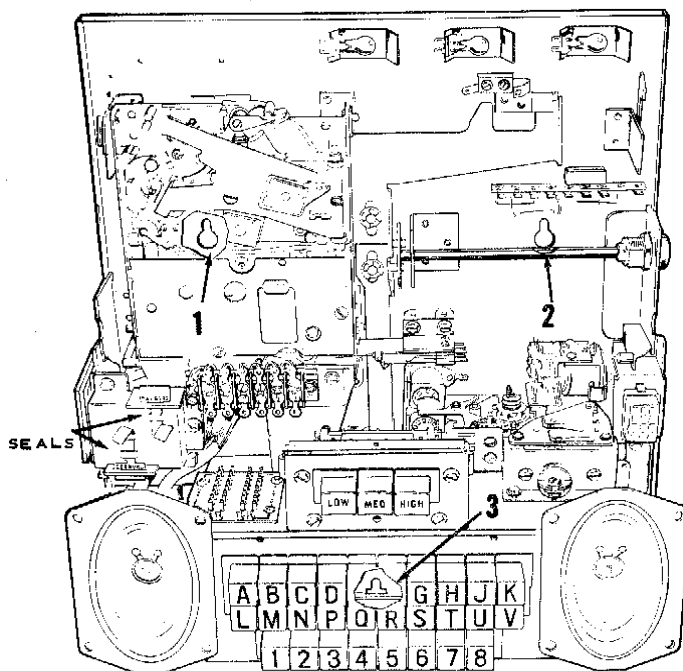

Figure 2. Interior View - Mounting and Seals.
The black and white wires of the interconnecting cable carry power to the lights and motor. The blue and black wires comprise a selection circuit to provide remote control of the selection system operation in the phonograph. The brown, red, and orange wires are for transmittal of coin deposit information to the income totalizer in the phonograph and their terminal board is covered and sealed as shown in Figure 2. The balance of wires in the cable are for audio and control of the stereo speakers in the Consolette.
There are three holes in the back plate for mounting, identified 1, 2 and 3 in *Figure 2*. The two upper holes are slotted for fitting over screws already set in the wall at the proper points. The lower hole is for rigidly mounting the Consolette by means of a screw, after it has been hung in place.
4. Replace the cover on the left hand terminal board; secure with two screws. Install one of the seals from the lower left side of the terminal board cover so that the serial number is right reading and fold the tab down at the score mark. Install the other seal from the upper right side of the terminal board cover and fold the tab up at the score mark. (See *Figure 2*).